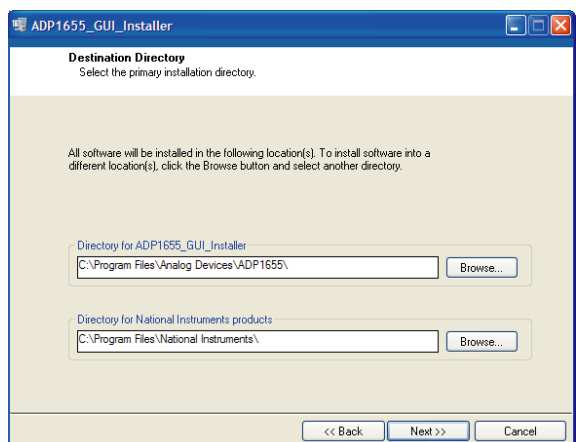

Figure 2. ADP1655 Evaluation Software Setup
1. Insert the ADP1655-EVALZ setup CD into the CD-ROM and run the file **Setup.exe**. When the dialog box shown in Figure 2 appears, click **Next >>** to install the files to the default destination folder, or click **Browse...** to choose a different location.